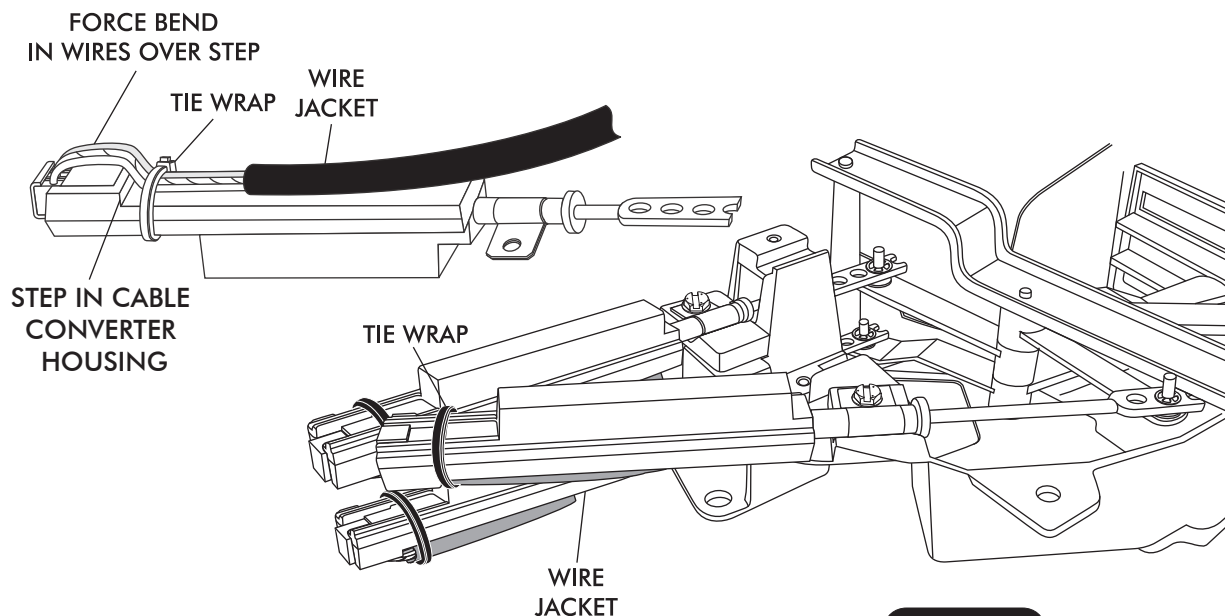

FIGURE 12
- ONCE WIRES ARE CORRECTLY PLUGGED INTO CABLE CONVERTER ASSEMBLY, SECURE WIRES TO THE CABLE CONVERTER ASSEMBLY USING TIE WRAPS (SUPPLIED). SEE FIGURE 12 BELOW. THE TIE WRAP MUST BE LOCATED BETWEEN THE END OF THE WIRE JACKET AND STEP IN CABLE CONVERTER HOUSING FORCING A BEND IN EACH WIRE AS THEY PASS OVER THE STEP IN CABLE CONVERTER HOUSING. HEAD OF TIE WRAP MUST FALL ON EDGE OF HOUSING AS SHOWN TO REMAIN TIGHT. ENSURE THAT THE TIE WRAPS ARE SNUG ENOUGH THAT THE WIRES CANNOT MOVE. SEE BELOW